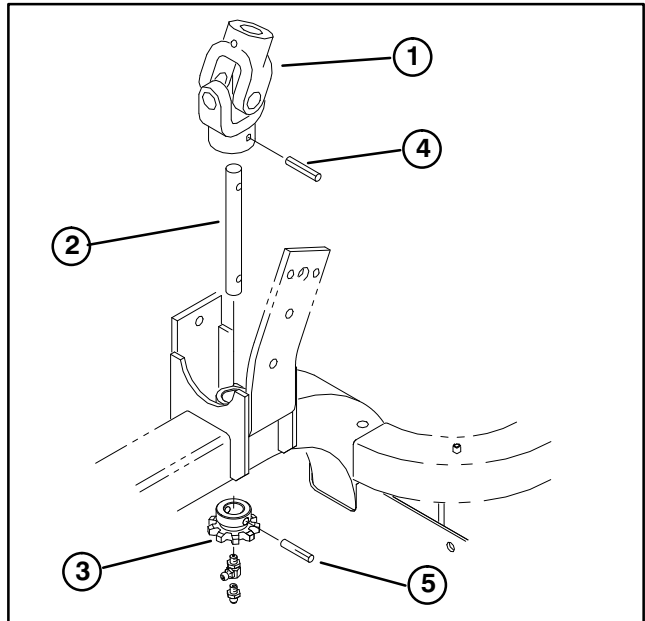

Figure 7
4. Remove roll pin securing top of lower steering shaft to universal joint (Fig. 7). Remove and discard sprocket and shaft.
5. Assemble new sprocket, drive pin, grease fitting and lower steering shaft (Fig. 7).